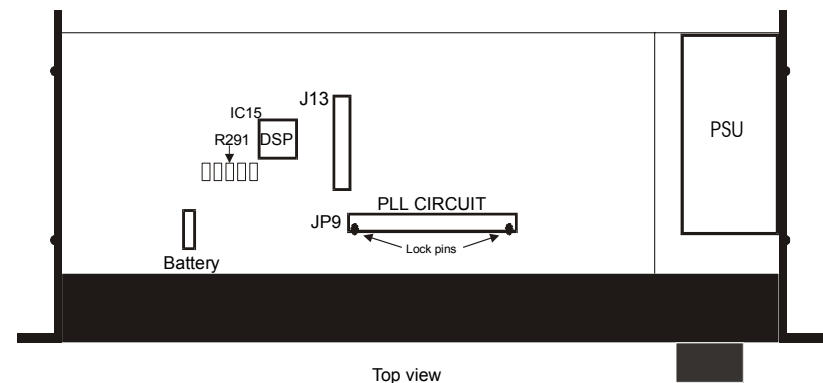

Fig. 2: Location of R291 and PLL circuit board
4. Remove the old PLL board (P12906-3) by pressing out the lock pins, one in each end, see fig. 2.
6. Mount a 0 ohm resistor at R291, see fig 2.